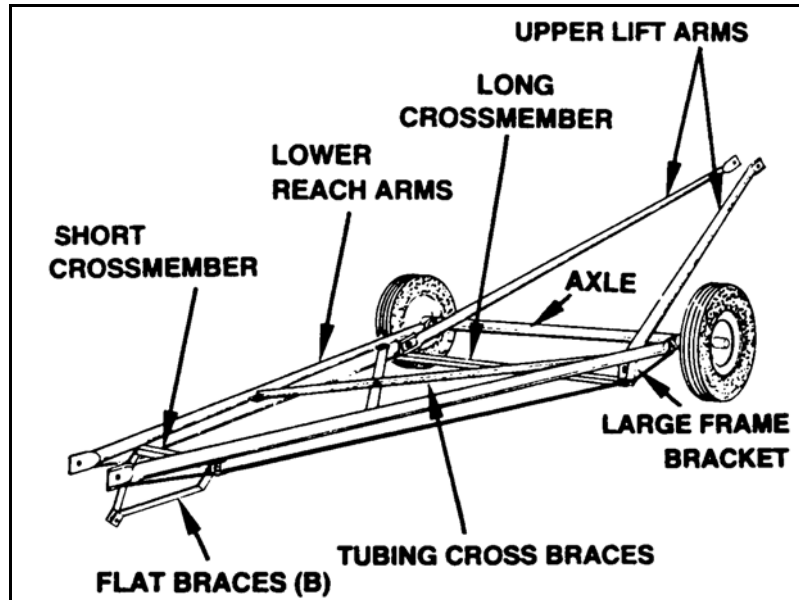

Figure 3.19
- a. Attach short cross-member to small frame brackets loosely with two 1/2" x 1-1/2" bolts and locknuts, sandwiching the flat braces (B) between the short cross-member and small frame braces on each side (Figure 3.19).